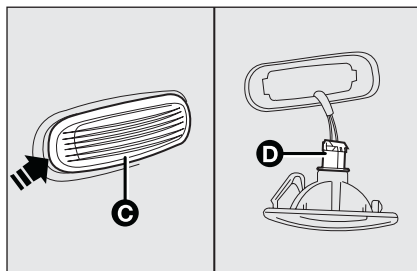

fig. 24
- ☐ lever in the point shown by the arrow to compress the catch and remove the unit **C**-fig. 24;